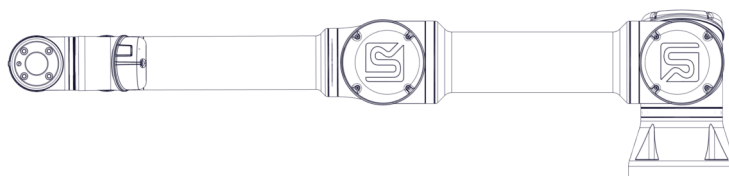

Figure 3.4. Elongated horizontal position of UR robot.
3. Pull/Push the robot to a horizontally elongated position and release. See figure 3.4.